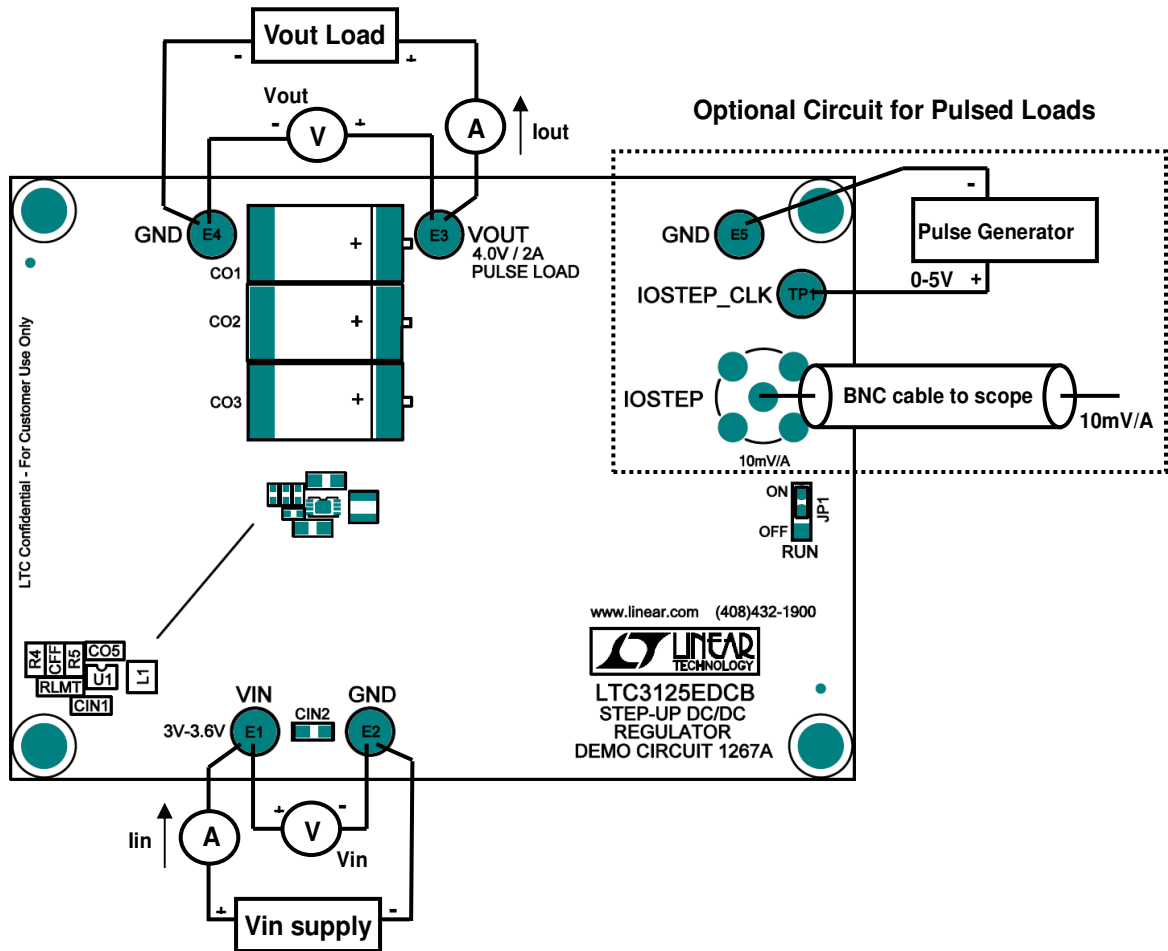

Figure 1. Proper Measurement Equipment Setup
Demonstration circuit 1267A is easy to set up to evaluate the performance of the LTC3125EDCB. Refer to Figure 1 for proper measurement equipment setup and follow the procedure below:
Demonstration circuit 1267A can be setup for simple evaluation of pulse loads – please see optional circuit in Figure 1 for proper setup. The circuit is capable of pulsed load of up to 2A with duty cycles up to 15%. Starting from step 5 in the quick start procedure above, follow the procedure below:
4. A pulse generator with adjustable amplitude is connected between IOSTEP_CLK and GND as indicated in Figure 1. The pulse generator should be capable of generating up to 5V pulses. Adjust the period and duty cycle of this signal to match that of the required load prior to attaching the pulse generator.